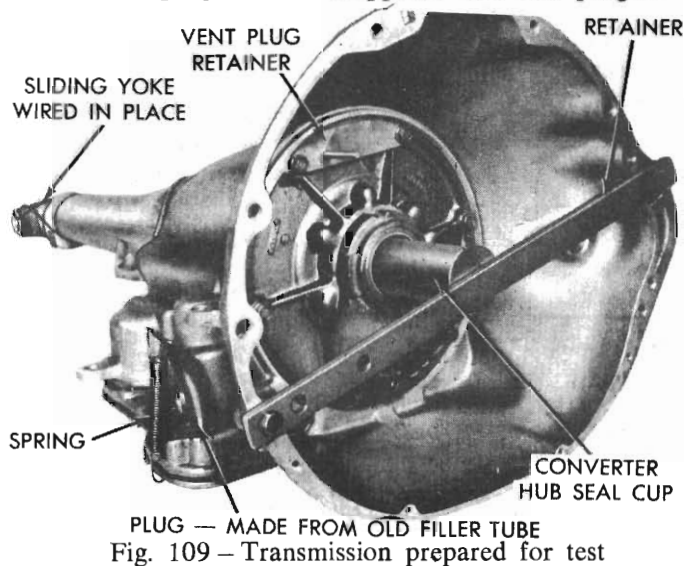

Fig. 109 - Transmission prepared for test
(3) With rotary motion, install converter hub seal cup over input shaft, and through the converter hub seal until the cup bottoms against the pump rotor lugs. Secure with cup retainer strap (Fig. 109), using converter housing to engine block retaining bolts.